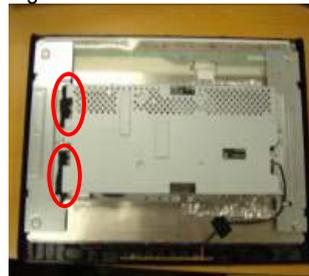

Fig.8
- b. Remove the acetate tape and lamp wire as shown in Fig.8